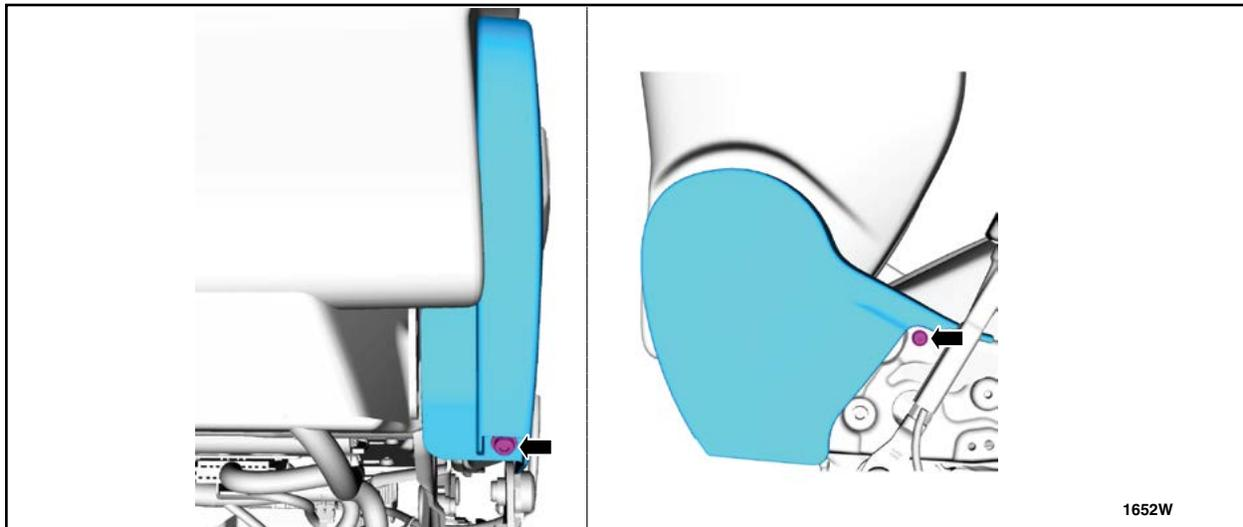

FIGURE 22
6. Remove the two screws and the recline cover. See Figure 22.